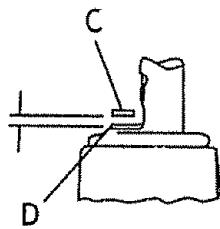

FIG. 11
2. Press top dispenser firmly against the handle tube "G". Valve stem "C" must be above valve lifter "D" (Fig. 11).
Bend the two projections (tabs) at the same time upward until a dime fits snugly between the bottom of the valve stem "C" and the top of the valve lifter "D" (Fig. 11).